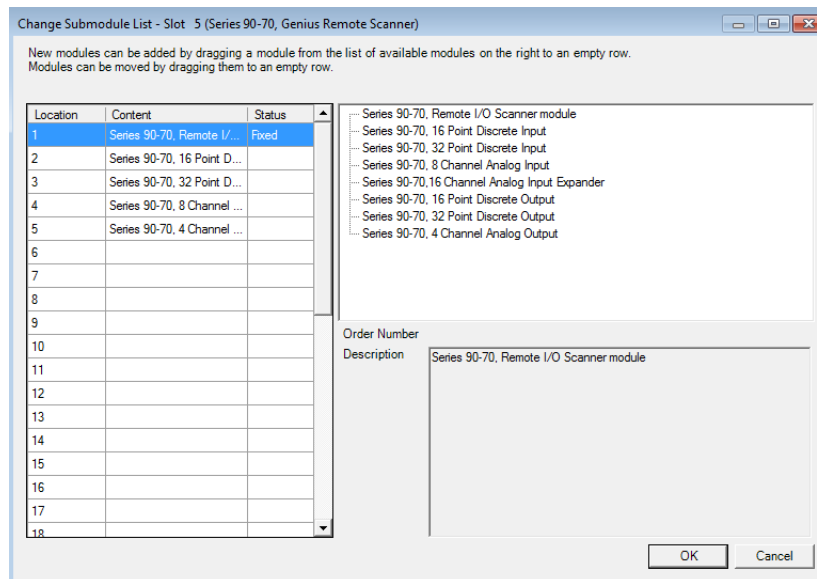

Figure 19: Populating Slots in S90-70 Rack Controlled by Remote I/O Scanner (BEM733)
- b. Drill down into the BEM733. A display of rack I/O will be presented (Figure 19).